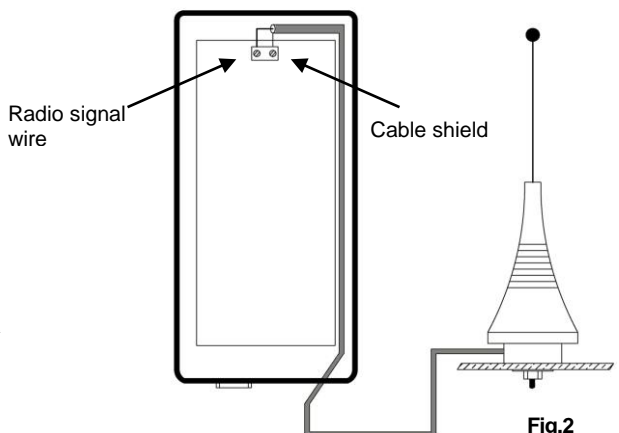

Fig.2
- Run the cable of the external antenna in the hole already made and connect it to the terminal board: the cable shield must be connected to the right contact, and the radio signal wire to the left contact (Figure 2);